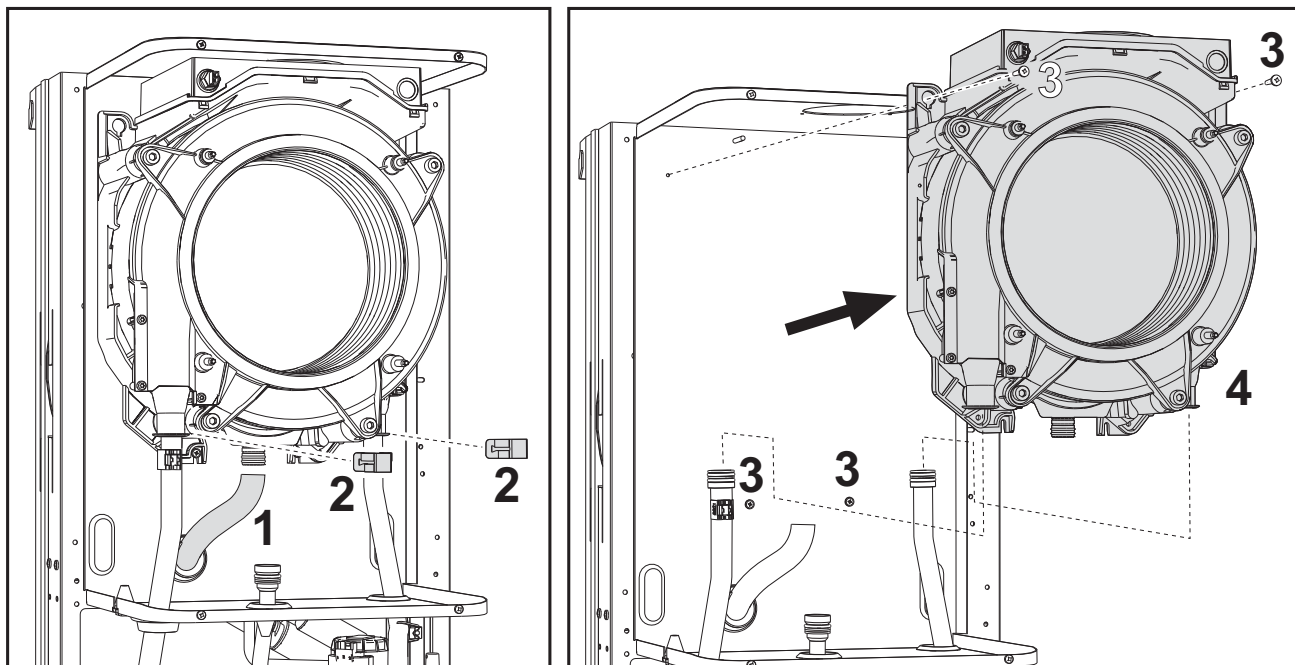

fig. 34- Main exchanger
- Remove the 2 top **screws "3"** securing the exchanger to the frame (fig. 34)
- Loosen the 2 bottom **screws "3"** securing the exchanger to the frame (fig. 34)